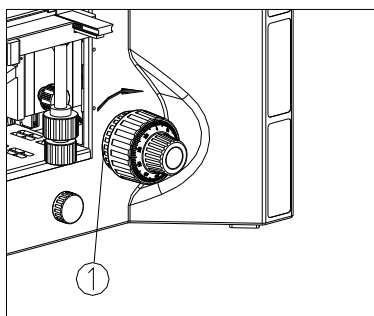

Fig.23
If the handle is very heavy when coarse focusing or the specimen leaves the focus plane after focusing, or the stage declines itself, please rotate the tension adjustment ring ① according to the arrowhead pointed direction to adjust the focusing tension. (See Fig. 23)